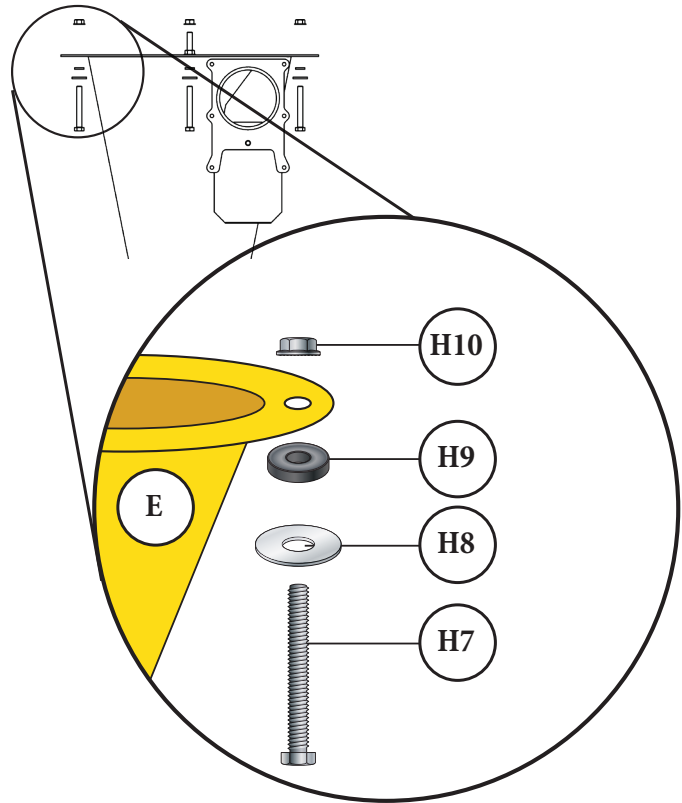

FIG. 7
Install the four Hex Head Bolts (H7), Flat Washers (H8), Rubber Washers (H9), and Whiz-Lock Nuts (H10) to the holes in the Cyclone's (E) upper flange [FIG. 7].